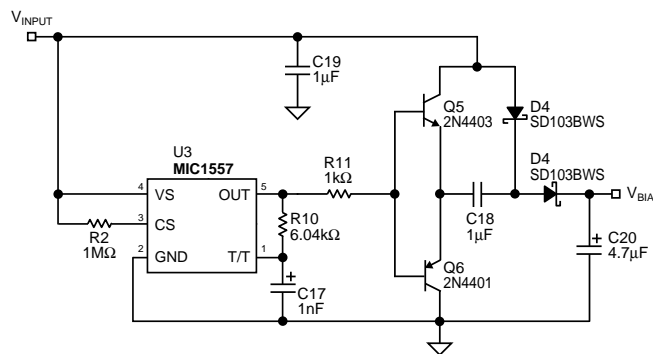

Figure 3. Charge Pump Circuit 2
Though the MIC2182 is rated for operation between 4.5V to 32V input, it can convert input voltages as low as 2.5V as long as a  $\geq 5V$  bias is applied to the  $V_{IN}$  pin (10). If a  $\geq 5V$  bias is not available in your application, a charge pump can be used to provide the voltage. See figure 3 and figure 4 for charge-pump ideas.